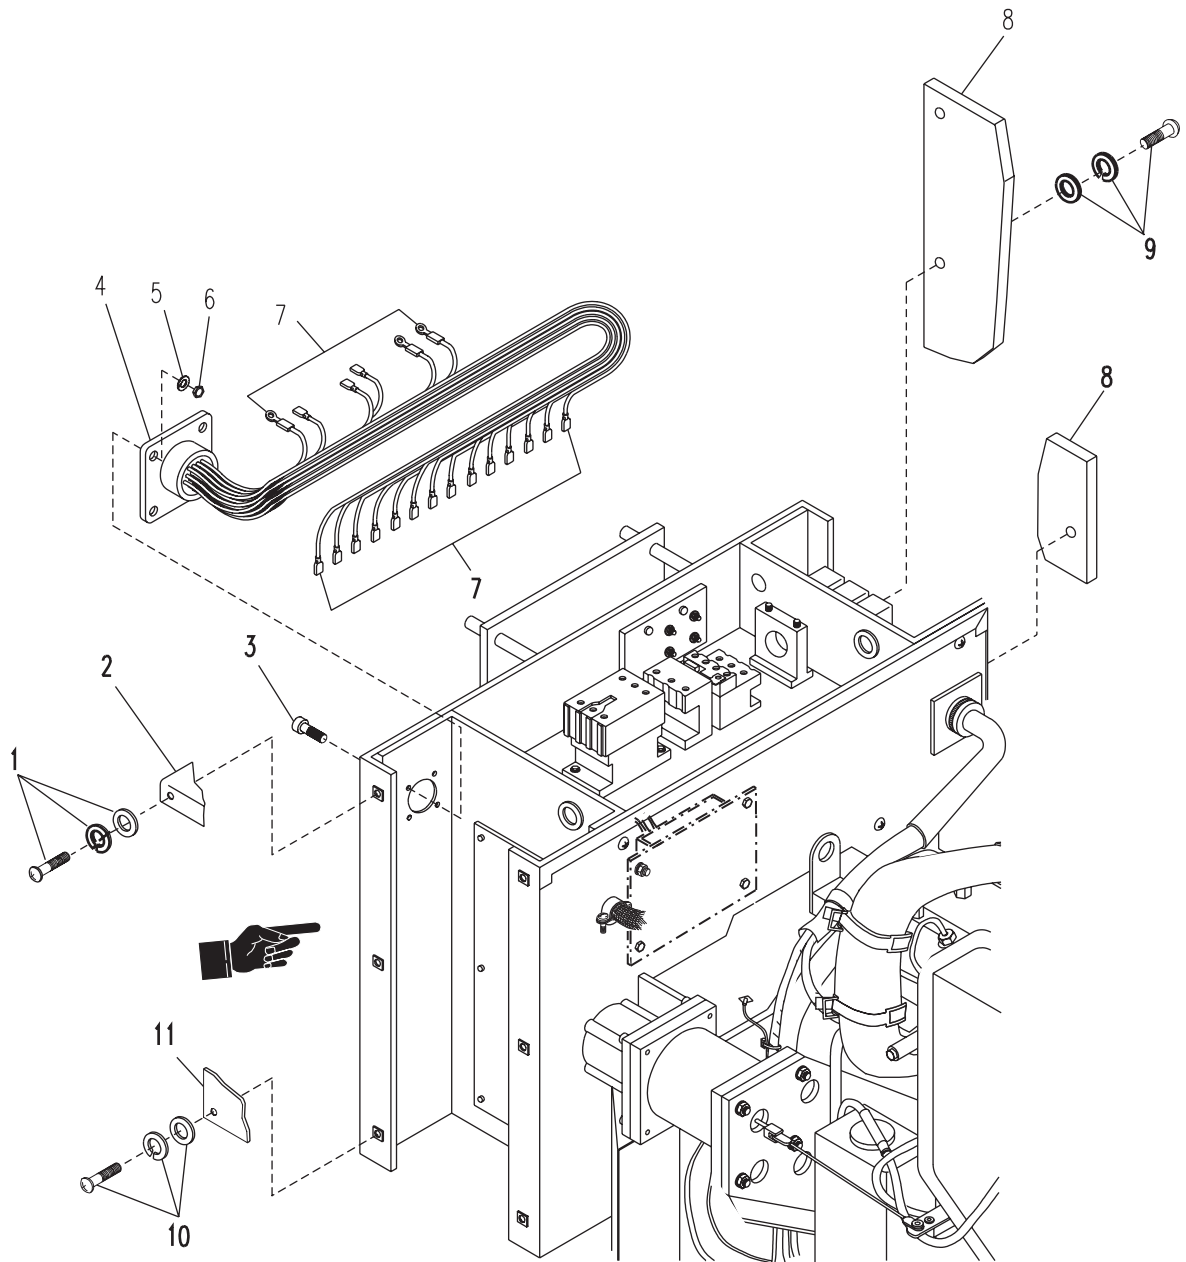

Figure 5-19. APU DC Box Wiring Harness J3
- a. Remove four screws (JTACS), or slotted hex-head bolts (SICPS and WIN-T), flat and lock washers (1, Figure 5-19), and generator housing top cover (2).
- b. Remove four screws (JTACS), or slotted hex-head bolts (SICPS and WIN-T), flat and lock washers (10), and generator housing side cover (11) (fuel transfer pump side).
- c. Remove two screws, wing nuts and lock washers (JTACS), or four slotted hex-head bolts (SICPS and WIN-T), flat and lock washers (9), and generator housing side cover (8) (muffler side).
- d. Refer to Table 5-1 and use a Multi-meter to test for continuity between pins at connector J3 (4) and corresponding leads.
- f. Using a Multi-meter, test for continuity between each pin position and connector shell of J3 (4).